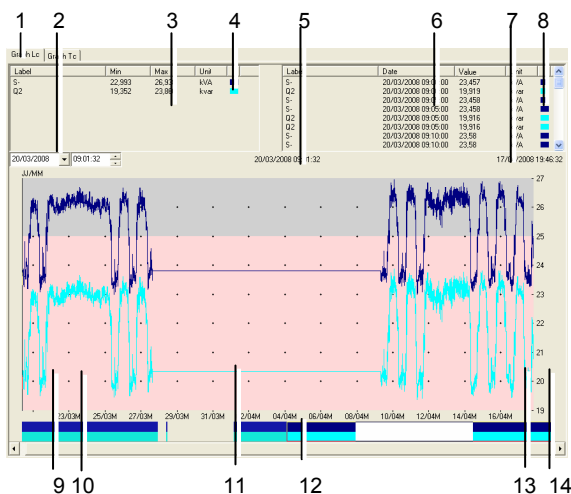

Figure 20-3: example of a display of the load curve graph.
2. In the displayed window, select the curves to be displayed by clicking on the corresponding checkboxes (ref. 1). The units (ref. 2), as well as the timestamp of start (ref. 3) and end (ref. 4) values present in the database are automatically refreshed.
3. If required, define the corresponding colour for the curves by clicking on the coloured zone (ref. 5).
4. If required, define the markers (coloured zones of graph background, see Figure 20-3). Four markers are available. To do this, check the marker to be used (ref. 6), define the value of the horizontal separation on the graph (see Figure 20-3) and its colour (ref. 9). Click on this zone to change the colour. Activate or not the gridlines of the graph (ref. 10). Click OK (ref. 8) to validate.